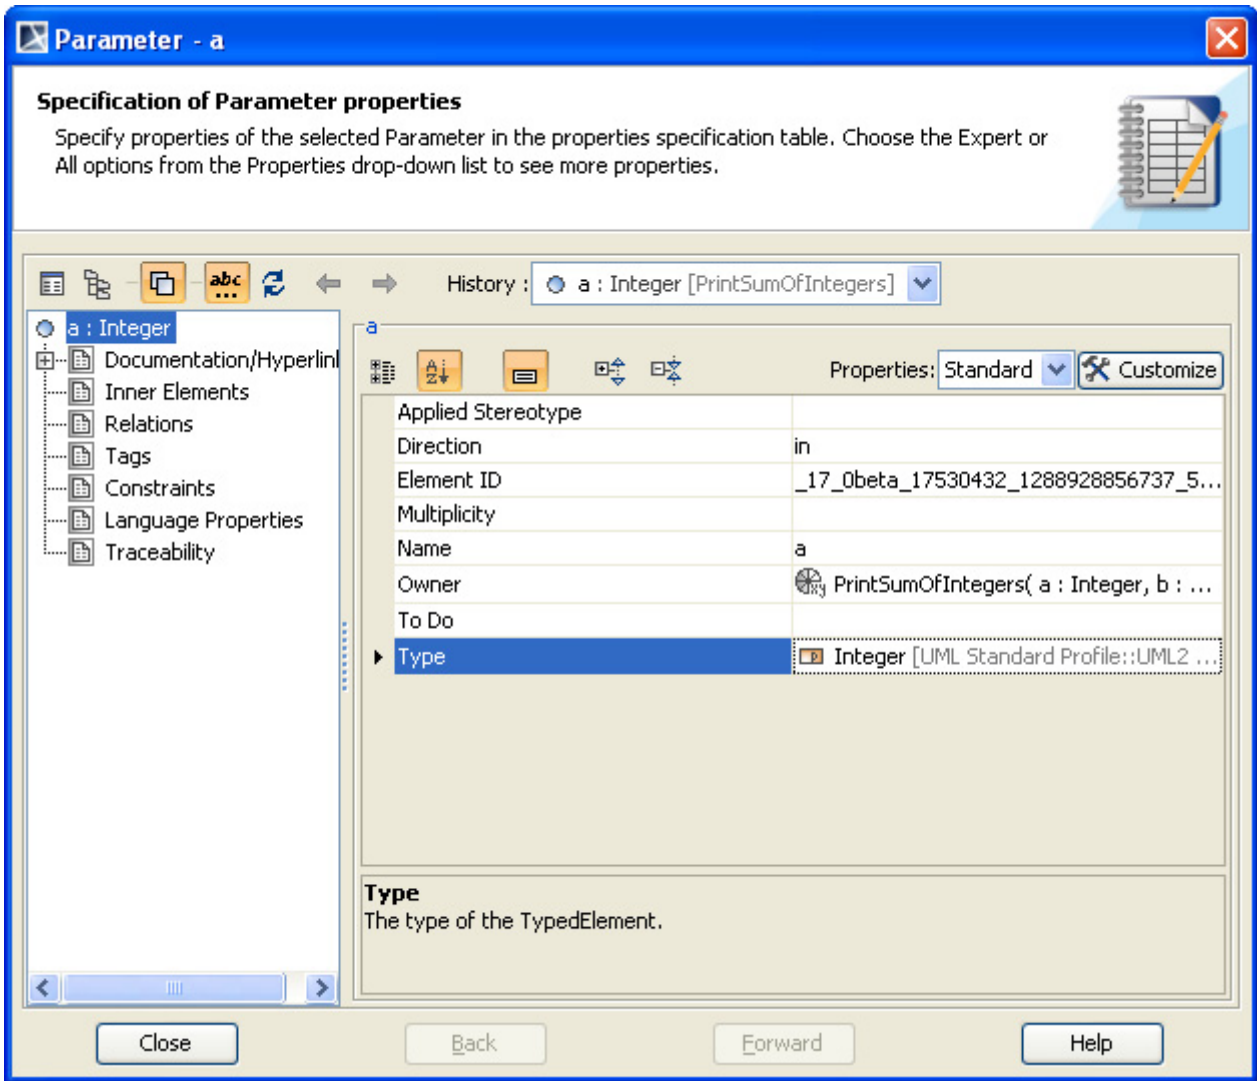

Figure 50 -- Specification Dialog of Parameter a
- (i) Right-click the **PrintSumOfIntegers** opaque behavior and select **New Element > Parameter**. Name the created parameter 'a' and select **Integer** as the type of parameter **a** (Figure 50).